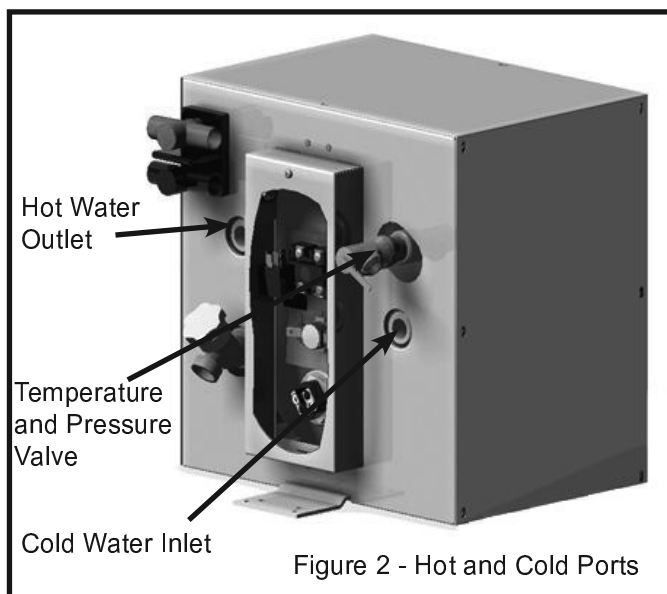

Figure 2 - Hot and Cold Ports
Step 2 Connect the cold water supply and hot water outlet to heater (see figure 2) using ½" N.P.T. fittings or WX1514 / WX1524B for a Whale® Quick Connect system.